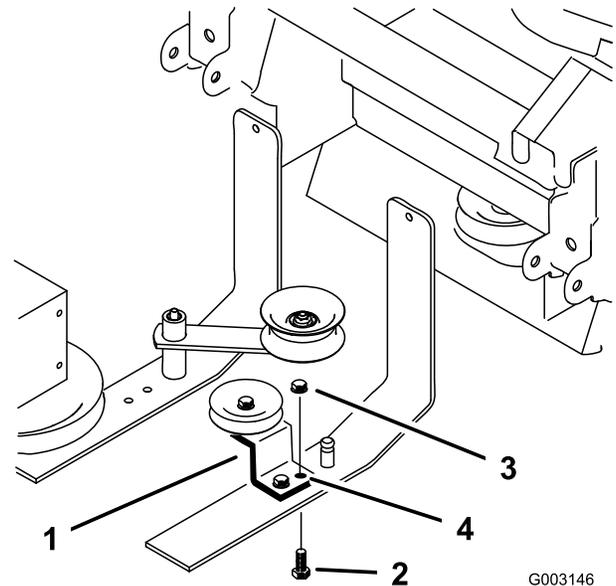

Figure 1
- To mark the holes for the left gusset, remove the bolt holding the fixed idler pulley bracket as shown in Figure 1.